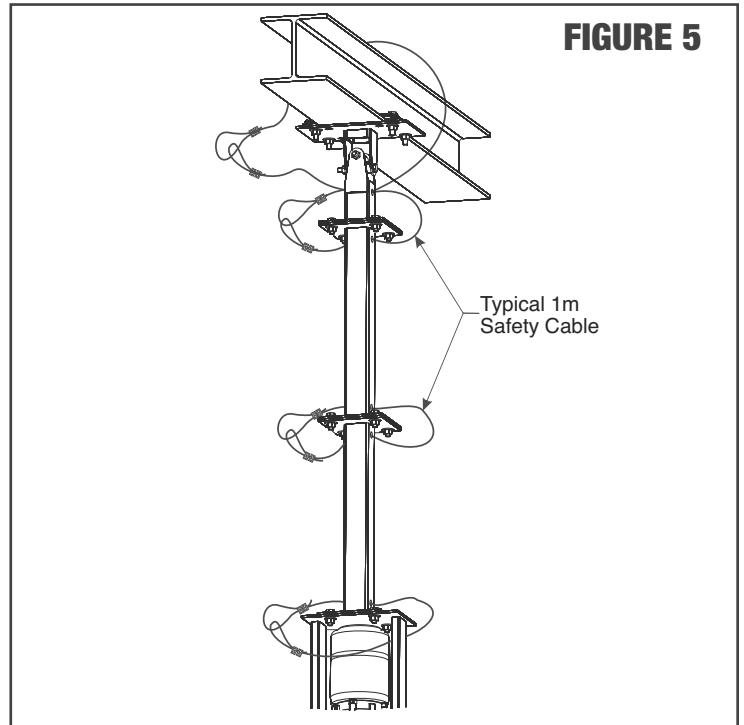

FIGURE 5
2. Position the safety cable as per **Figure 5**, loop at both ends.